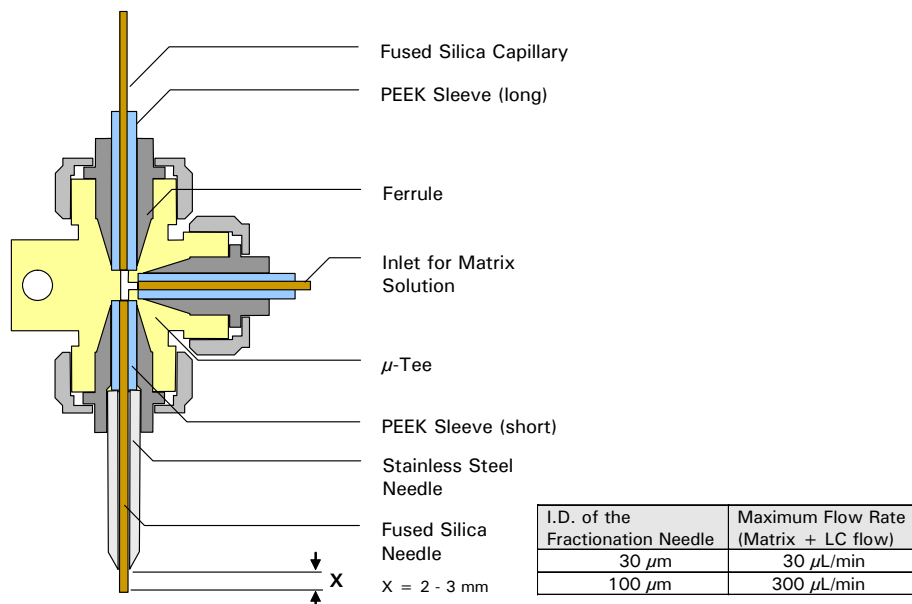

FIGURE 2-4 The μ -Tee
- Install the fused silica capillary into the upper port of the μ -Tee (FIGURE 2-4) inside the Probot using one long orange PEEK sleeve (P/N 162146), which is provided with the Probot. Turn the fitting until it is finger tight. You should not be able to move the capillary in the sleeve (e.g. it should be grabbed by the sleeve).